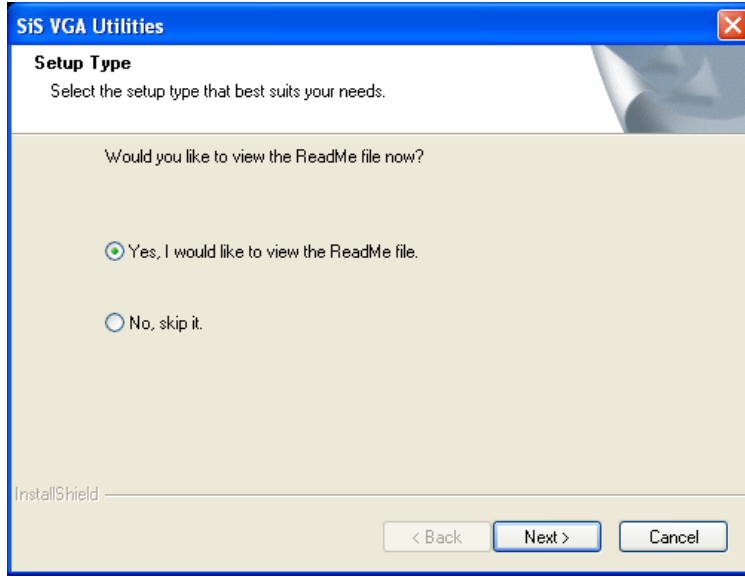

Figure 7-17: VGA Driver ReadMe file
Step 17: When the installation is complete the screen in **Figure 7-17** appears